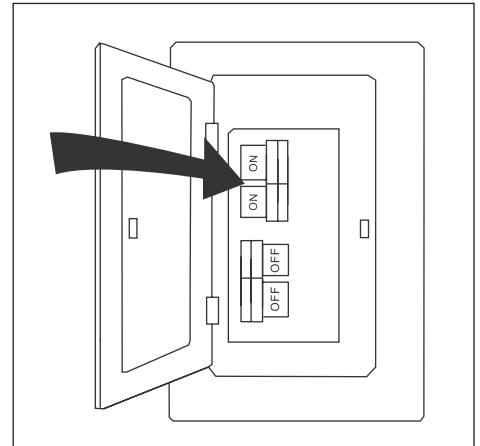

Figure 5.12
- Turn on power to fan at breaker box and the wall switch (Figure 5.12). Assembly is complete.